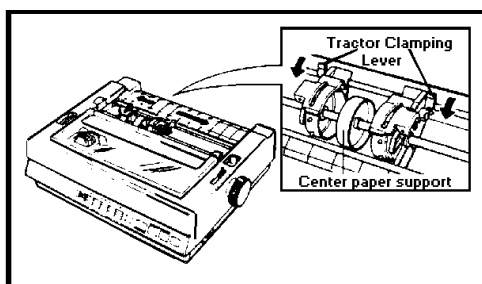

FIGURE 18 - TRACTOR FEED LEVER
- 3.8.2.3 Unlock the tractors by pulling up on the tractor clamping levers. Slide the tractors out toward the sides (Figure 18).